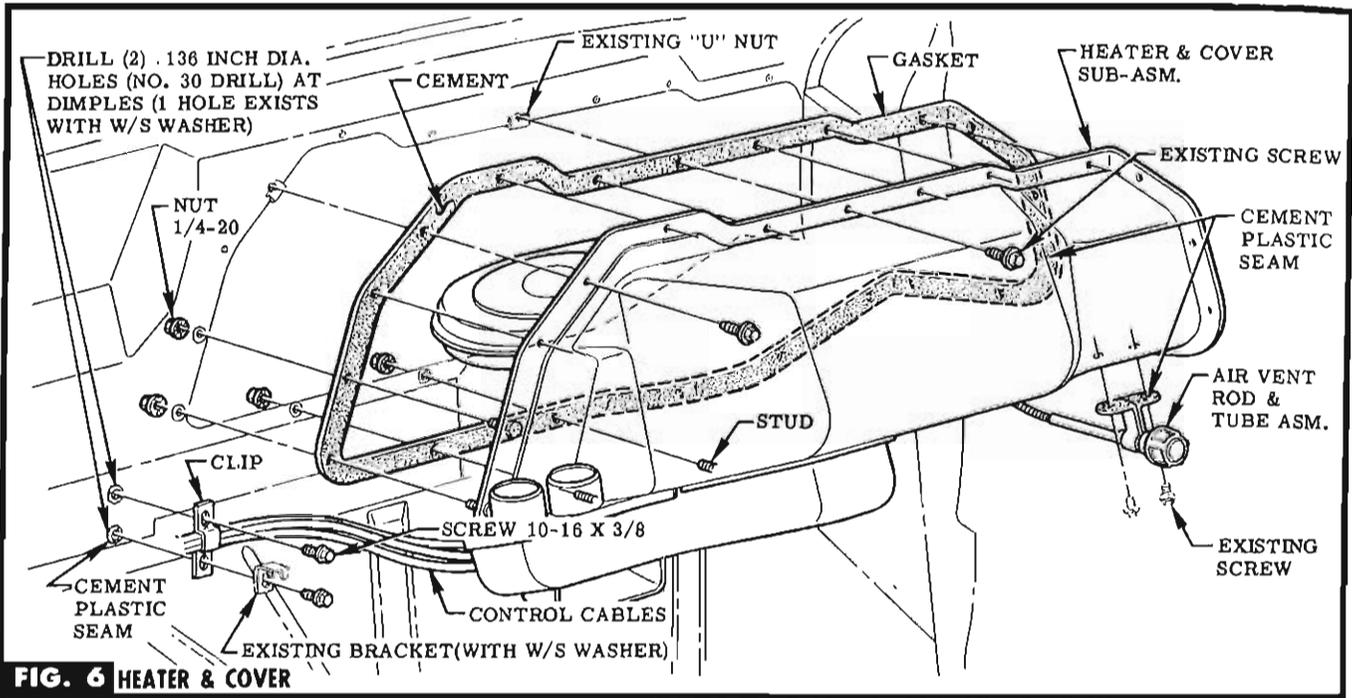

FIG. 6 HEATER & COVER
STEP 29 CEMENT GASKET TO COVER & APPLY PLASTIC SEAM CEMENT TO GASKET AT ATTACHING HOLES & TO DASH AT STUD HOLES. ATTACH COVER TO DASH PANEL WITH EXISTING "J" NUTS, RETAINED SCREWS & PROVIDED NUTS (IN BAG B). SEE FIG. 6.
STEP 30 APPLY PLASTIC SEAM CEMENT BETWEEN AIR VENT ROD & TUBE ASM. & COVER, THEN ATTACH WITH RETAINED SCREWS. SEE FIG. 6.
HOLE. SEE FIG. 6.
STEP 32 IF W/S WASHER DOES NOT EXIST, LOCATE DIMPLES & DRILL HOLES. SEE FIG. 6.
STEP 33 APPLY PLASTIC SEAM CEMENT TO HOLES & ATTACH CONTROL CABLES TO DASH PANEL WITH CLIP & SCREWS PROVIDED (IN BAG A). **NOTE** If W/s washers exist, attach retained bracket to bottom of clip. SEE FIG. 6.